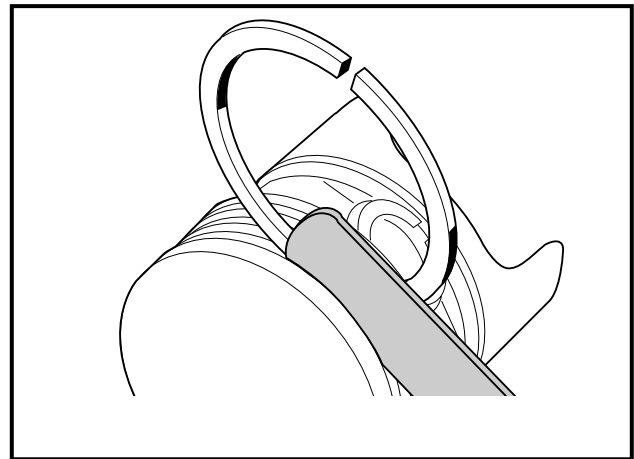

Figure 2-46 Measure Piston Ring and Groove Clearance
5. Use a new piston ring and a feeler gauge and measure the clearance between the grooves and ring at several points around the grooves (**Figure 2-46, Page 2-23**).